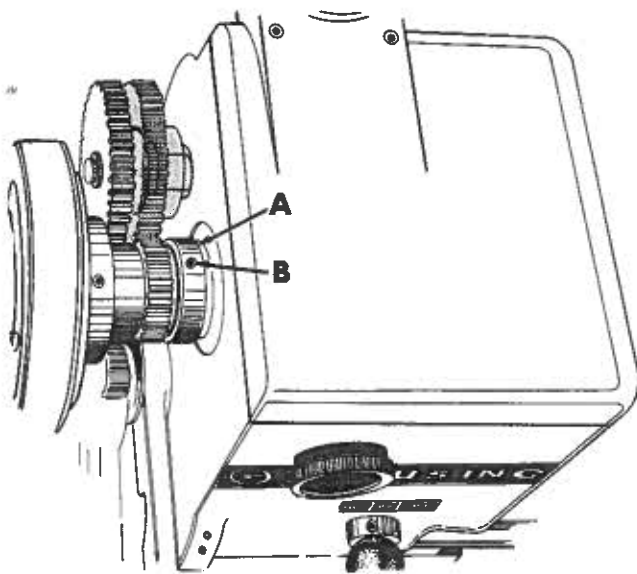

Figure 20
2. Loosen set screw (B) (fig. 20) in bearing adjusting nut (A) and tighten nut with spanner wrench until spindle end play has been removed.
3. Give driving plate a sharp spin with your hand -- drive plate should rotate about one turn. If it doesn't, adjust nut (A) and recheck.
4. Tighten set screw (B) in adjusting nut.